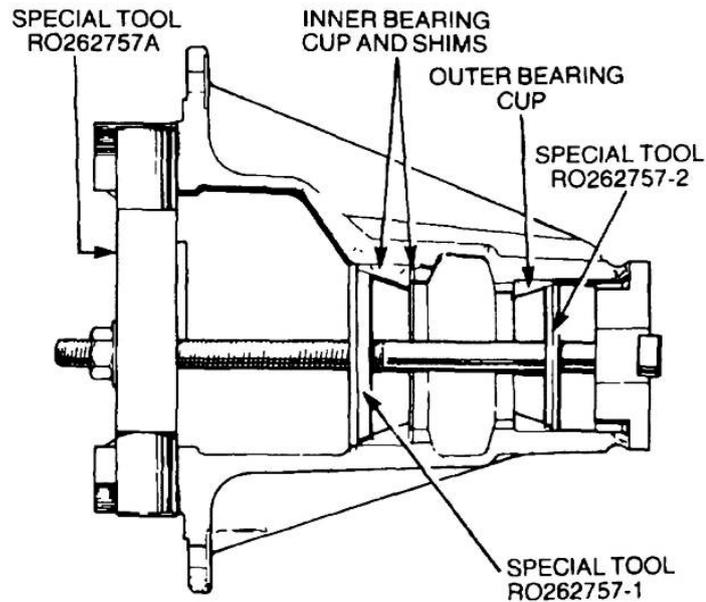

Figure 257 Installation of the Pinion Bearing Cups
- k.** Using special tools RO262757A, RO262757-1 and RO262757-2, install the pinion shaft inner and outer bearing cups and shims in the differential carrier (Figure 257).